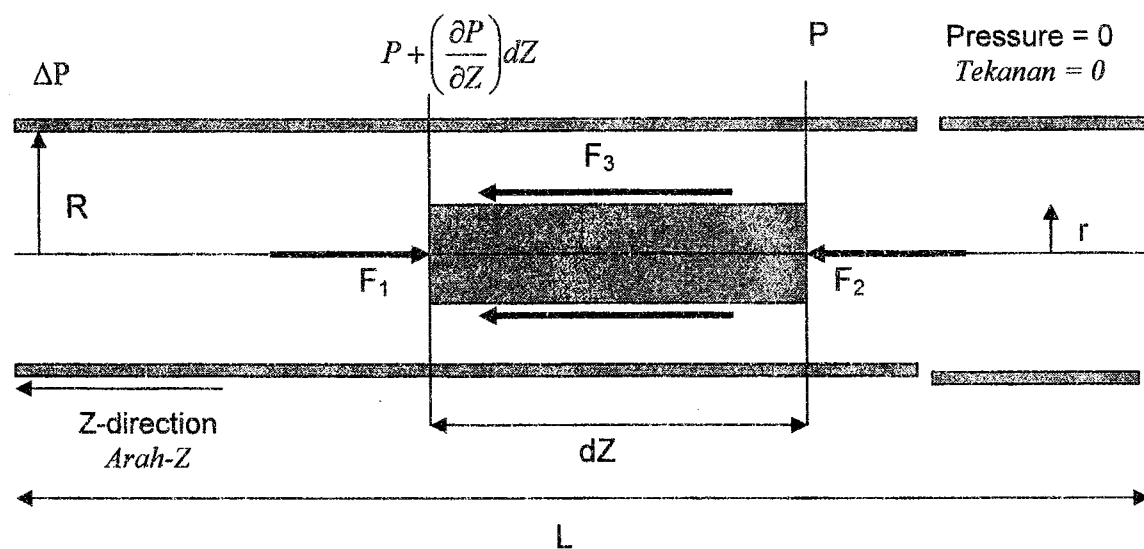

Figure 1 - Power-law fluid flow through a tube of cylindrical cross section
3. Obtain the expressions for shear stress and shear rate at wall for a Power-law fluid flow through a tube of cylindrical cross section (Figure 1). State your assumptions.